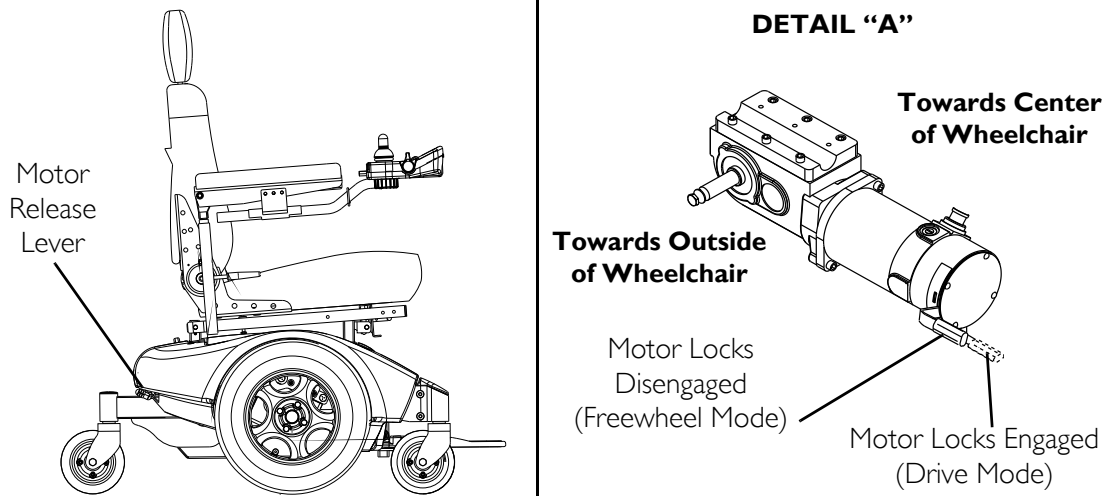

FIGURE 10.2 Engaging/Disengaging Motor Release Lever
NOTE: For this procedure, refer to FIGURE 10.2 on page 67.
- i. Slide the motor lock lever towards the outside of the wheelchair (free wheel position) as shown in Detail "A" of FIGURE 10.2.
- i. Slide the motor lock handles towards the center of the wheelchair (drive position) as shown in Detail "A" of FIGURE 10.2.